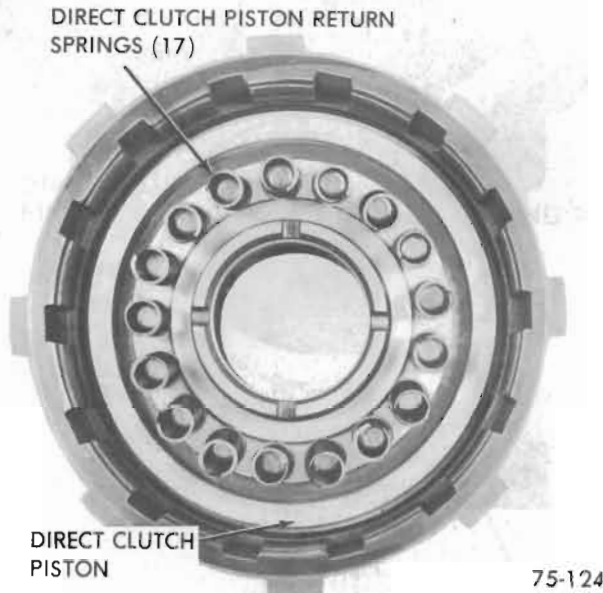

Figure 75-167
9. Remove seventeen (17) clutch return coil springs and piston. See Figure 75-167.
4. Install seventeen (17) clutch return coil springs. See Figure 75-167.